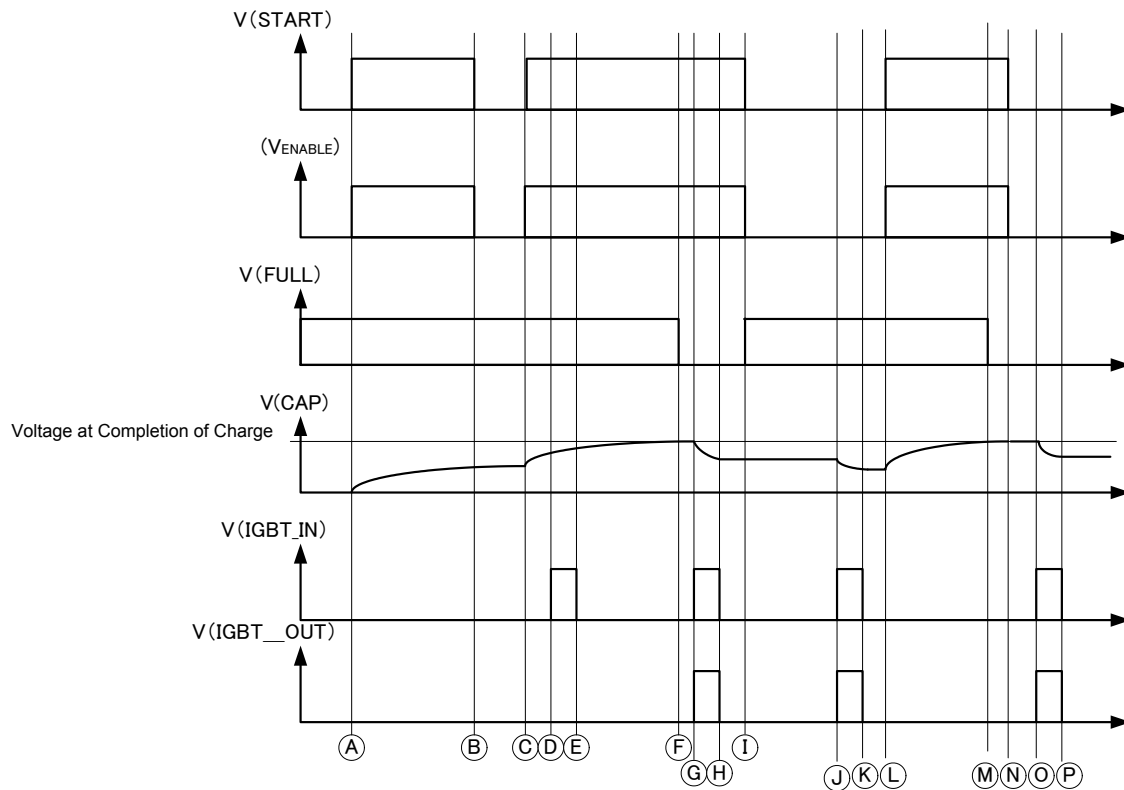

Fig 33 Timing Chart 1: Overall Operation
In this IC, a charging operation starts when the START pin is set to "H" (See Time ①, ③ and ④ in Fig 33.). In order to maintain the charging operation, the START pin must be set to "H". (See Time ① to ②, ③ to ④, ④ to ⑤ in Fig 33.) If any of the conditions ① to ③ are satisfied, the charging operation stops.
- ① The START pin is set to "L".
- ② Charging is completed. The VC pin voltage reaches the specified voltage. (See Time ⑥ and ⑦ in Fig 33.)
To re-charge, set the START pin to "L", and the FULL pin is changed from "L" to "H". Also, if the CHARGE\_ON pin is changed from "L" to "H" again, the charging operation re-starts. (See Time ③ in Fig 33.)
Set the IGBT\_IN pin to "H" when the IGBT driver satisfies the following 4 conditions. The "H" signal is output to the IGBT\_OUT pin. (See Time ⑥, ⑧ and ⑩ in Fig 33.)
- ① The VCC voltage is the UVLO release voltage or more.
- ② The FULL pin is set at "L".
- ③ Even if the IGBT\_IN pin is set to "H" while the START pin is set to "H", the IGBT\_OUT pin remains at "L" and no light flashes.